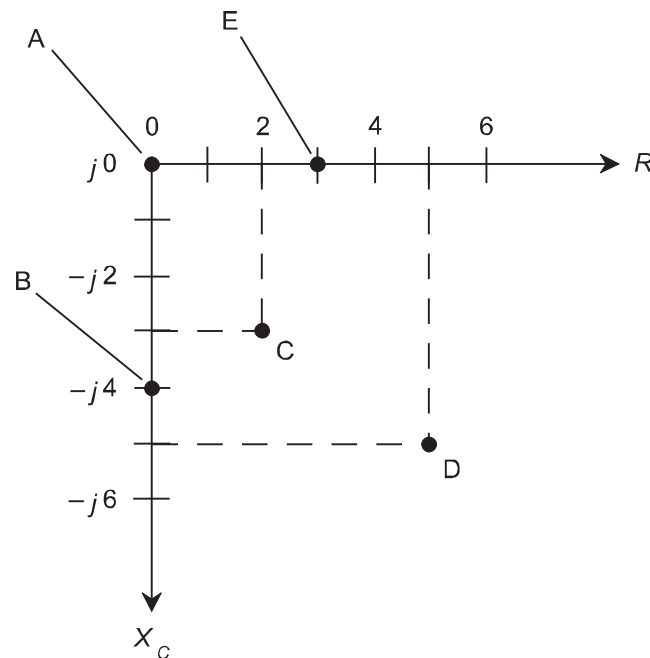
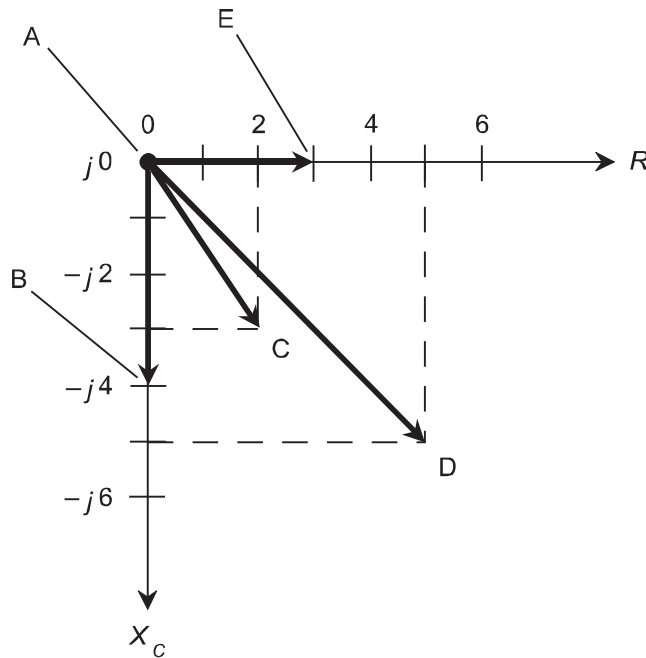

Fig. 3-11. Some points in the RX_C impedance plane. At A, $0 - j0$. At B, $0 - j4$. At C, $2 - j3$. At D, $5 - j5$. At E, $3 - j0$.
Fig. 3-12. Some vectors in the RX_C impedance plane. At A, $0 + j0$. At B, $0 - j4$. At C, $2 - j3$. At D, $5 - j5$. At E, $3 + j0$.
placed end-to-end at right angles to make the RX_C plane (Fig. 3-11). Resistance is plotted horizontally, with increasing values toward the right. Capacitive reactance is plotted vertically, with increasingly negative values downward. Each point corresponds to exactly one complex impedance. Conversely, each specific impedance coincides with exactly one point on the plane. Impedance values that contain resistance and capacitance can be written in complex form. Because X_C is never positive, engineers usually write $R - jX_C$.
In Fig. 3-11, several complex impedance points are shown, corresponding to various combinations of resistance and capacitive reactance. Each point is represented by a certain distance to the right of the origin $(0, 0)$, and a certain displacement downwards.
Impedance points in the RX_C plane can be rendered as vectors, just as can be done in the RX_L plane. The magnitude of a vector is the distance of the point from the origin; the direction is the angle measured clockwise from the resistance (R) line, and specified in *negative degrees*. The vectors for the points of Fig. 3-11 are depicted in Fig. 3-12.